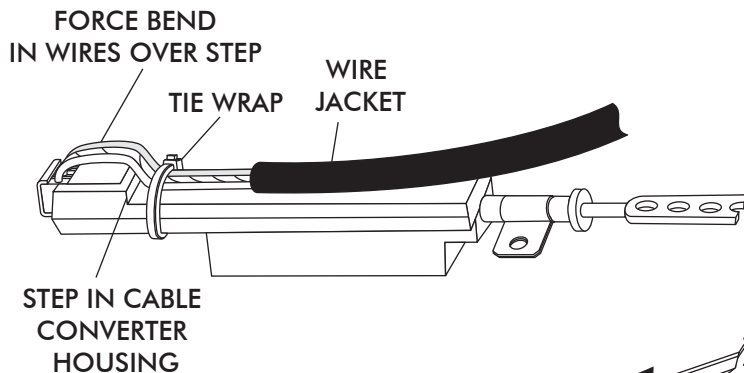

FIGURE 7b
- ONCE THE CONNECTOR IS CORRECTLY PLUGGED INTO THE CABLE CONVERTER ASSEMBLY, SECURE THE WIRES TO THE CABLE CONVERTER ASSEMBLY USING ONE OF THE SUPPLIED TIE WRAPS (SEE FIGURE 7b, BELOW). THE TIE WRAP MUST BE LOCATED BETWEEN THE END OF THE WIRE JACKET AND STEP IN THE CABLE CONVERTER HOUSING, FORCING A BEND IN EACH WIRE IT PASSES OVER THE STEP IN THE CABLE CONVERTER HOUSING. THE HEAD OF THE TIE WRAP MUST FALL ON THE EDGE OF THE HOUSING TO REMAIN TIGHT. ENSURE THAT THE TIE WRAP IS TIGHT ENOUGH THAT THE WIRES CANNOT MOVE. (SEE FIGURE 7b, BELOW).